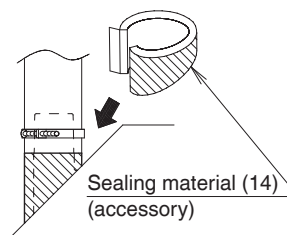
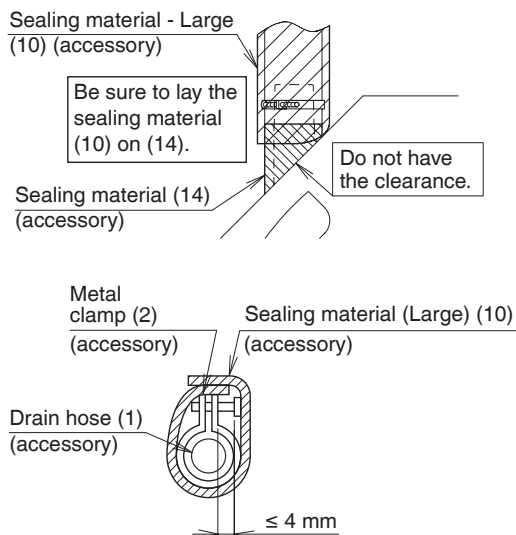

Fig. 19
Fig. 21
- After checking the drainage of water, refer to **Fig. 19** and attach the sealing material (14) to perform the thermal insulation of the drain socket.
After checking the drainage of water, refer to **Fig. 19** and attach the sealing material (14) to perform the thermal insulation of the drain socket.
(3) Sweating may occur and result in water leakage. Therefore, make sure to insulate the following 2 locations (drain piping and drain sockets that laid indoors).
After drainage is checked, put the attached sealing material (14) referring to **Fig. 19**, and insulate the drain hose (1) and the metal clamp (2) with the attached sealing material (Large) (10) referring to **Fig. 21**.